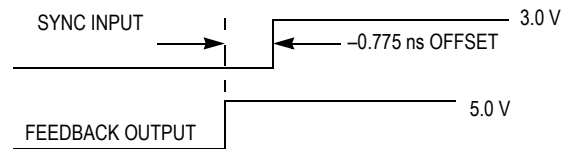

Figure 4. Depiction of the Fixed SYNC to Feedback Offset (t_{PD}) Which is Present When a 470 kΩ Resistor is Tied to V_{CC} or Ground
4. A 1 MΩ resistor tied to either Analog V_{CC} or Analog GND, depicted in Figure 4, is required to ensure no jitter is present on the MC88915 outputs. This technique causes a phase offset between the SYNC input and the output connected to the FEEDBACK input, measured at the input pins. The t_{PD} spec describes how this offset varies with process, temperature, and voltage. The specs were determined by measuring the phase relationship for the 14 lots described in Note 1 while the part was in phase-locked operation. The actual measurements were made with a 10 MHz SYNC input (1.0 ns edge rate from 0.8 V – 2.0 V) with the Q/2 output fed back. The phase measurements were made at 1.5 V. The Q/2 output was terminated at the FEEDBACK input with 100 Ω to V_{CC} and 100 Ω to ground.